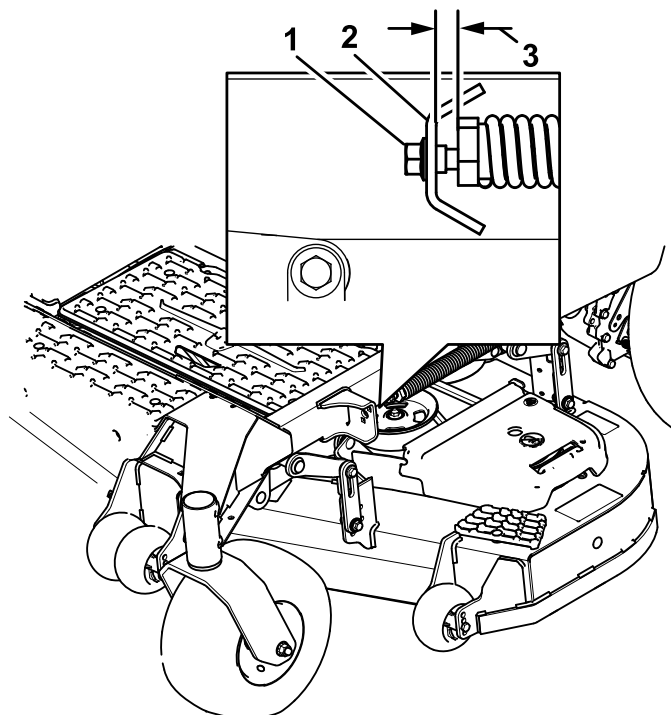

**Figure 108**
10. Slowly loosen the adjusting screw on the lift-assist spring until you can remove the screw (Figure 108).